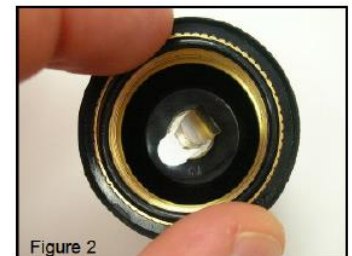

Figure 2
**3. Pre-Installation (Figure 2):**